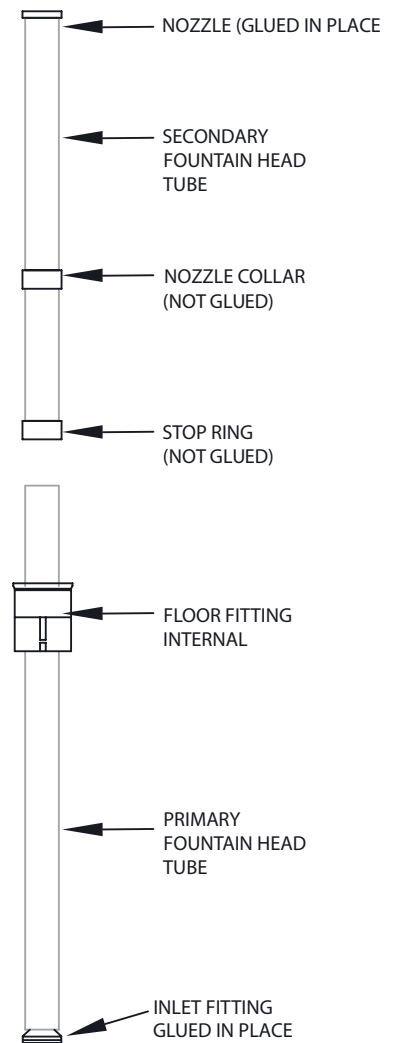

**Figure 3**
3. Remove the fountainhead nozzle (see Figure 3) from the fountainhead tube and cut the tube to the length required for the nozzle to rise within 2" of the pool water surface. Cut the plain end of the tube opposite the end with the inlet fitting. Note! The SD22 is already sized for a 24" water depth. The fountainhead tube is 24" long, however, the floor fitting is 2" deep and absorbs 2" of the length. If the water depth is 18", cut the tube 18" long and the nozzle will automatically be 2" below the water surface.
4. Remove the fountainhead nozzle (see Figure 3) from the fountain head tube and cut the tube to the desired height of the Water Lily Fountain. Since the tube is 24" long, the maximum height possible is 18" above the water level in an area where the water depth is a maximum of 6" deep. If an 18" fountain is desired the tube does not need to be cut. Simply glue the fountain head to the 24" tube. For proper effect, **do not exceed 18" above water.**
3. Remove the fountainhead nozzle (see Figure 3) from the fountainhead tube and cut the tube to the length required for the nozzle to rise **1" above** the pool water surface. Cut the plain end of the tube opposite the end with the inlet fitting.